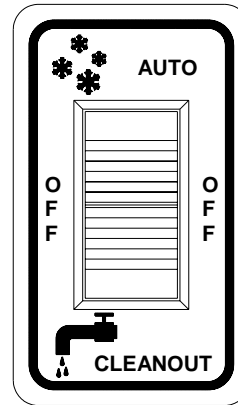

Fig. 2
1. Set the control switch (Fig. 2) to the “**CLEANOUT**” position and dispense all product from the freezing cylinder by pulling downward on the spigot handle (Fig. 10) to empty the machine. Repeat for opposite side.